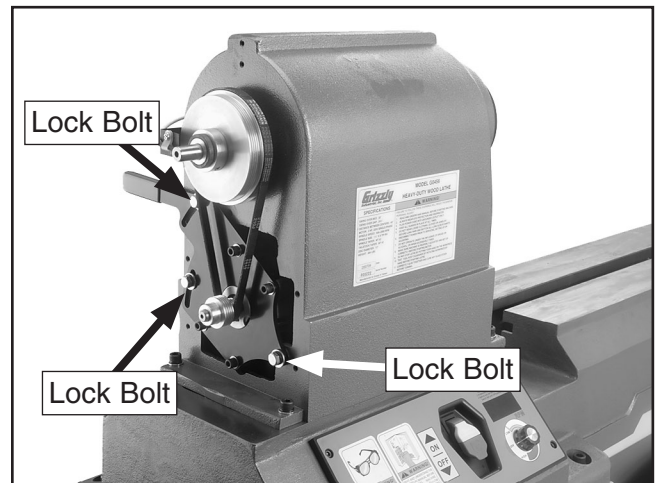

Figure 49. Belt tension lock bolts.
5. Loosen the three lock bolts shown in **Figure 49**.